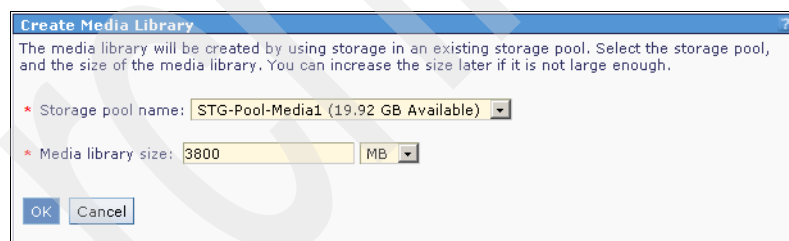

Figure 6-5 Media library - specify library size and volume group
5. Specify the storage pool that will contain the logical volume with the media library and the size of the media library. We used the volume group created in step 1 on page 206. The initial size was set to hold the AIX 6.1 DVD with a size of approximately 3.6 GB. See Figure 6-5. Click **OK**.